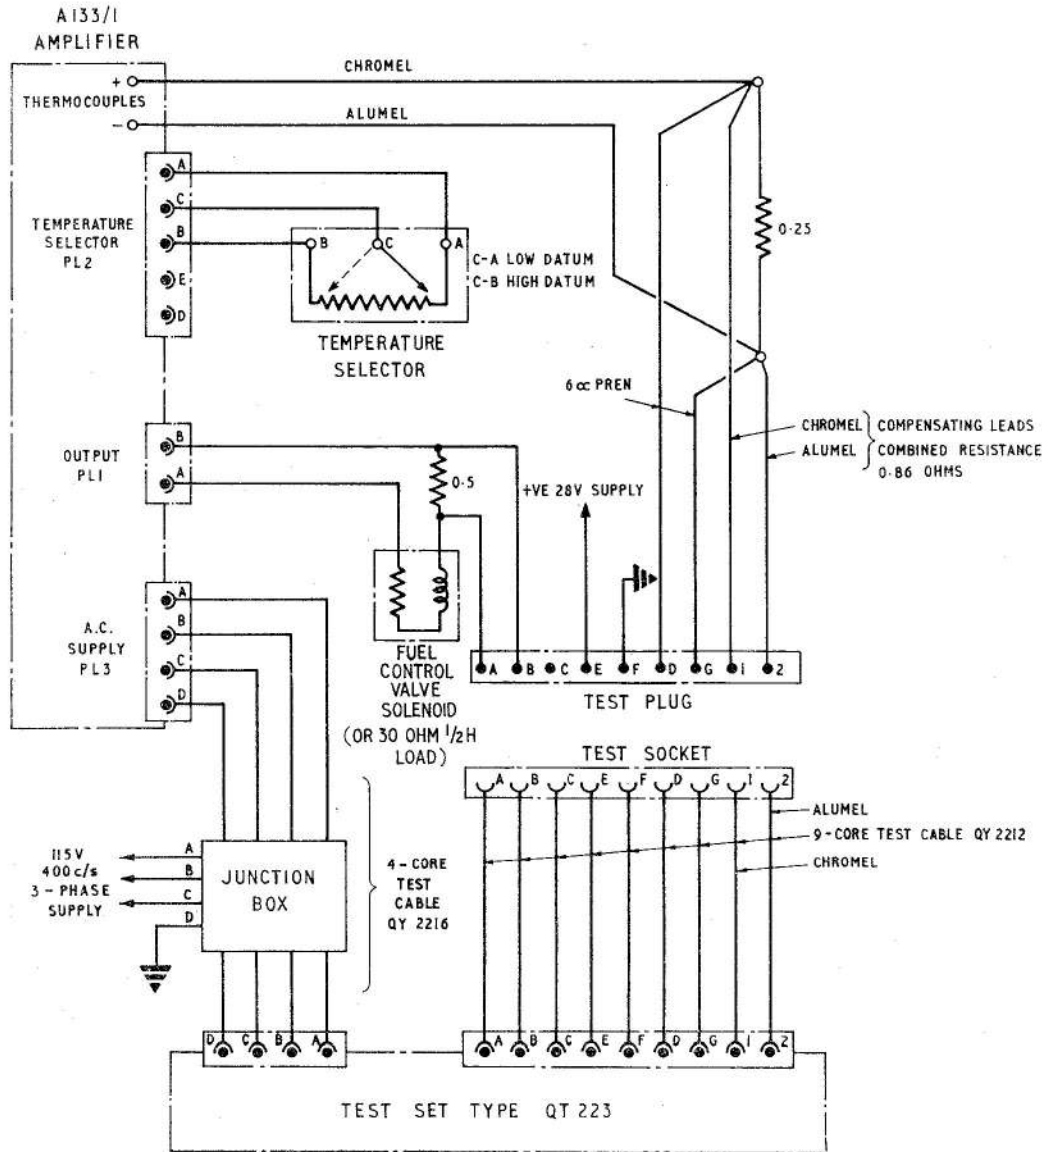

Fig 4. Bench test circuit
- (1) Test set, Ultra, Type QT223.
- (2) Nine-core test cable, Type QY2212.
- (3) Four-core test cable, Type QY2216.
- (4) A bench test rig made up as shown in fig. 4.
- (5) A 115V 3-phase, 400 c/s, supply.
- (6) Stop watch.
- (7) Temperature selector plug.
26. Since in the aircraft, compensating leads connect the amplifier input terminals to the thermocouple commoning terminals, and also connect the commoning terminals to the test plug, similar leads must be used in the test rig. These leads should be made from Chromel and Alumel as shown in fig. 4.